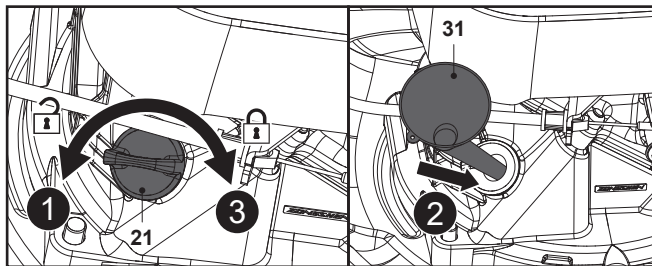

Fig. 8
1. Unscrew and remove the oil tank cap (21) (Fig. 8, step 1).
2. Gradually add good-quality engine oil (SAE 10W-30) with the supplied oil funnel (31) (Fig. 8, step 2). Allow the oil to settle.
3. Check the oil level frequently while filling. Wipe off oil dipstick and insert it into the tank opening without tightening the oil tank cap (21), and then remove the dipstick again.
6. Wipe spilled oil with a soft cloth and reattach the oil tank cap (Fig. 8, step 3).